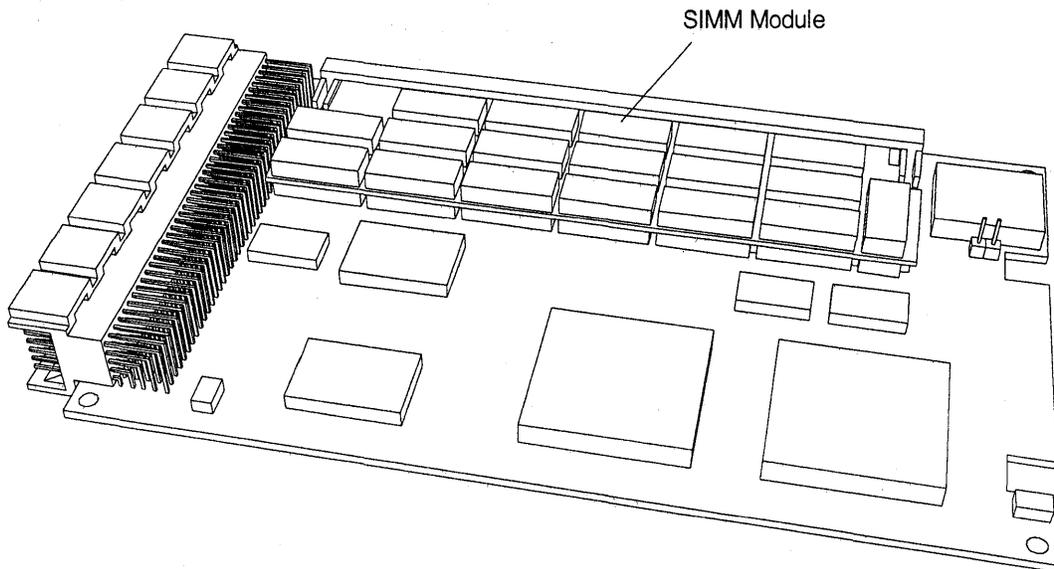

Figure 1-1: Location of SIMM on Controller Board
- 3 Insert the SIMM in the connector at an angle of approximately 45°. The SIMM's shape assures that you can install it in the proper orientation only. Push the end opposite from the connector down towards the board until the SIMM snaps into place. See Figure 1-1